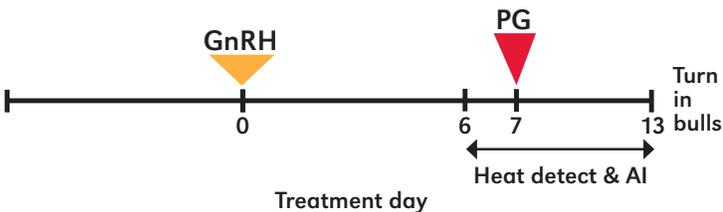

Figure 12. Select Synch with HD.
**Select Synch with HD** (Figure 12). For the Select Synch protocol, GnRH is injected on day 0. Beginning on day 6 and continuing through day 13 of the protocol, check for estrus. Inseminate females 12 hours after observing estrus. On day 7, inject all noninseminated cows with prostaglandin.